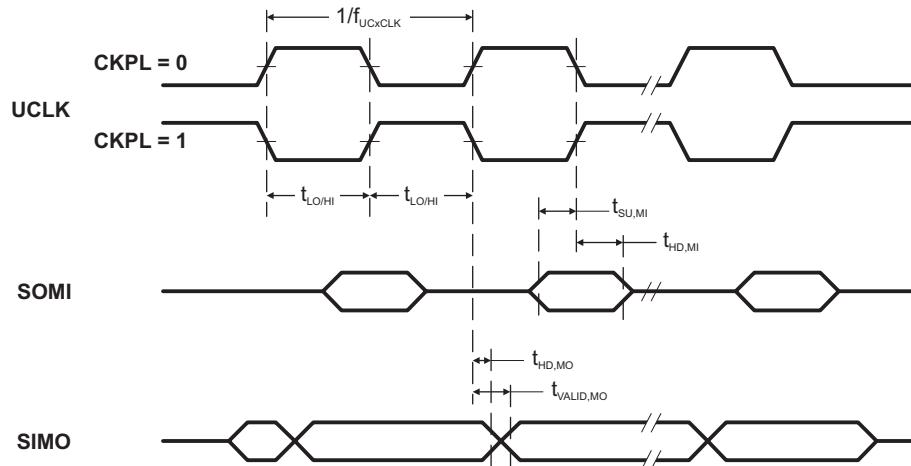
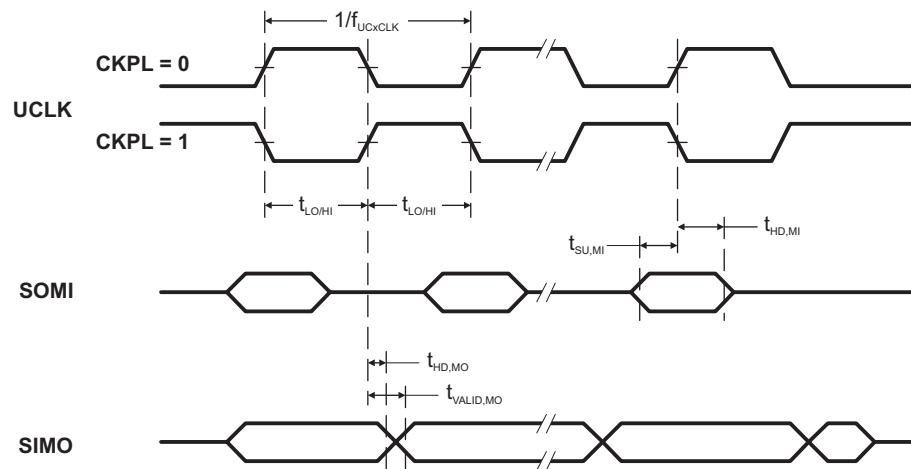

Figure 11. SPI Master Mode, CKPH = 0
Figure 12. SPI Master Mode, CKPH = 1
(see Note ⁽¹⁾, Figure 11 and Figure 12)
(2) Specifies the time to drive the next valid data to the SIMO output after the output changing UCLK clock edge. See the timing diagrams in Figure 11 and Figure 12.
(3) Specifies how long data on the SIMO output is valid after the output changing UCLK clock edge. Negative values indicate that the data on the SIMO output can become invalid before the output changing clock edge observed on UCLK. See the timing diagrams in Figure 11 and Figure 12.